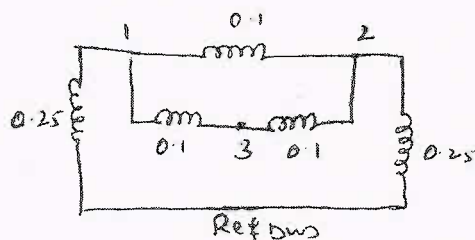

Fig. Q9(b)
b. For the three-bus network shown in Fig.Q9(b) build Z_{bus} . (08 Marks)